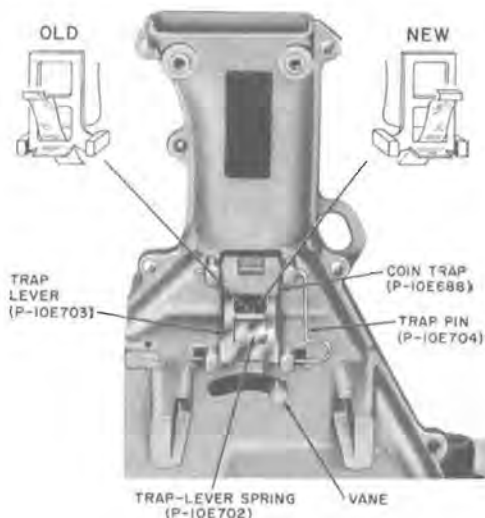

Fig. 42—Trap-Lever Spring and Trap-Lever Assembly
- (1) Remove coin relay from hopper. See 6.84.
- (2) Move vane to right.
- (3) Remove trap pin (Fig. 42) by sliding vertical portion over boss on front of hopper.
- (4) Turn coin trap sideways and remove through opening.